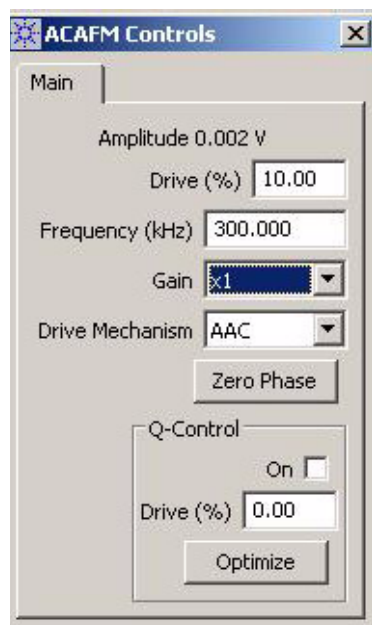

Figure 72 ACAFM Controls window
- 5 Choose **Controls > AC Mode** to open the **ACAFM Controls** window (Figure 72).